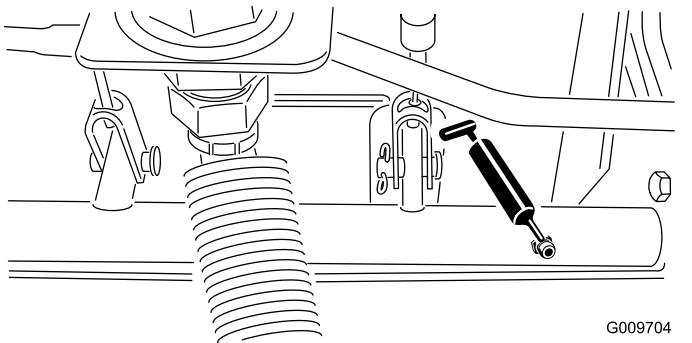

Figure 101
- Brake shaft pivot bearings (5), refer to Figure 101